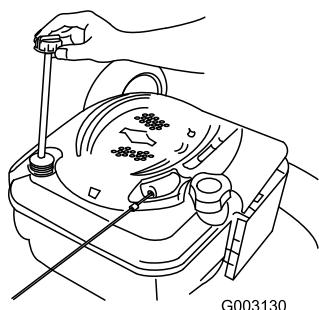

Figure 46
2. Remove the dipstick (Figure 46).